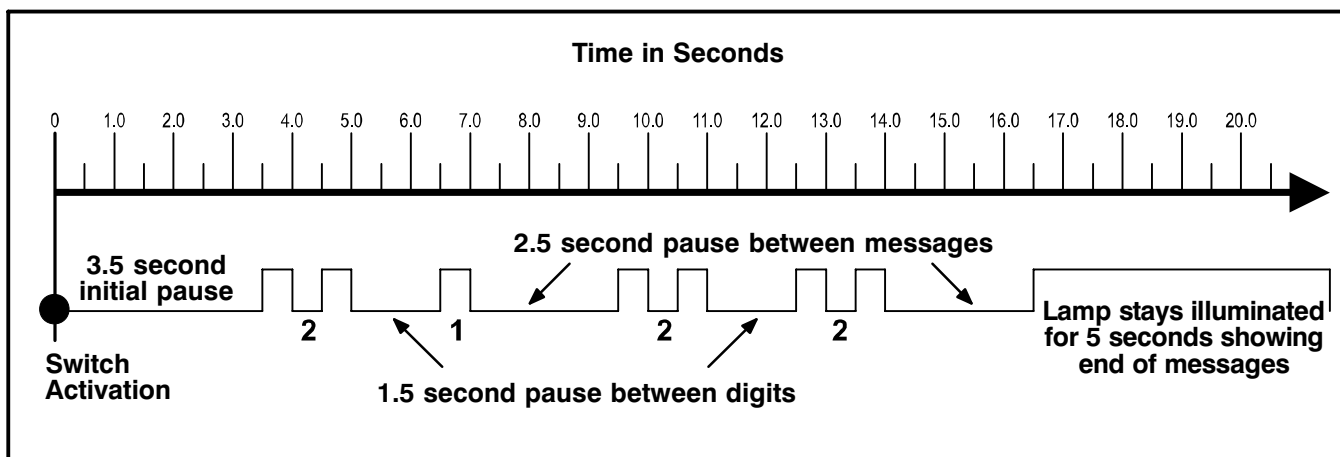

Figure 1-46
4. After a pause of 3.5 seconds, the ECU will begin responding with output information blinks. Refer Figure 1-46 for an example.